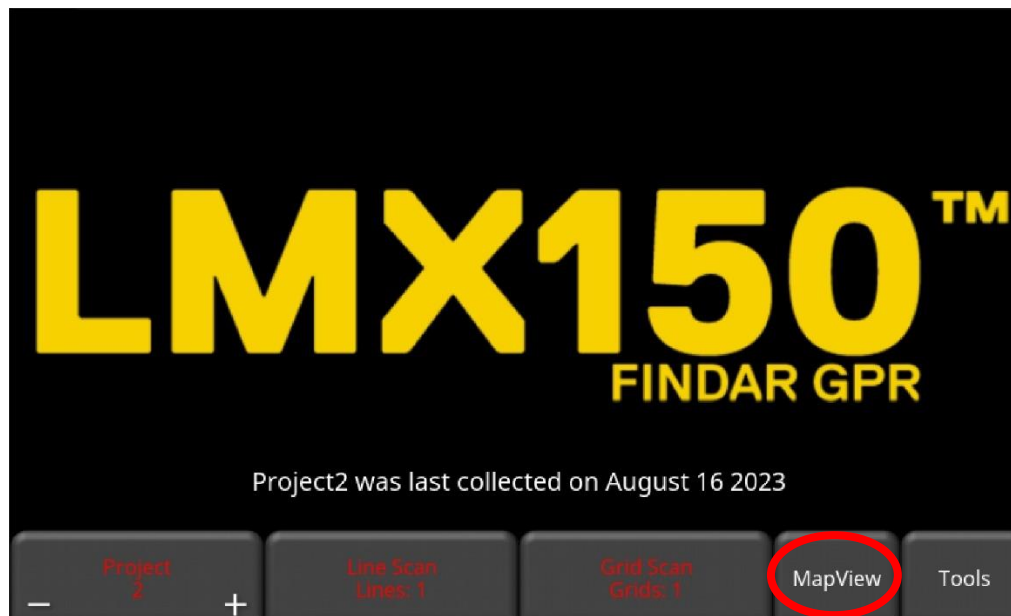

Figure 9-1: Accessing MapView from the main screen.
- From the main screen (Figure 9-1: Accessing MapView from the main screen). MapView is *project* based, meaning it will display all lines and grids that are present in a given project.